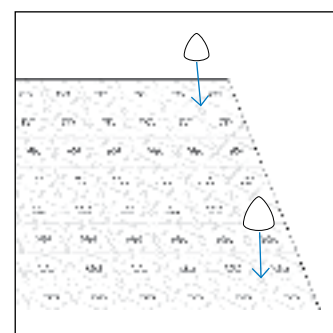

Figure 25
- Last, stick the bumper to the light sheet by applying firm pressure for several seconds (figure 25).